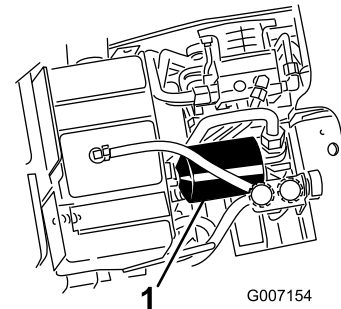

Figure 74
4. Place a drain pan under the filter (Figure 74).
5. Remove the old filter (Figure 74) and wipe the surface of the filter adapter gasket clean.
7. Install the replacement hydraulic filter onto the filter adapter (Figure 74). Tighten it clockwise until the rubber gasket contacts the filter adapter, then tighten the filter an additional 3/4 turn.